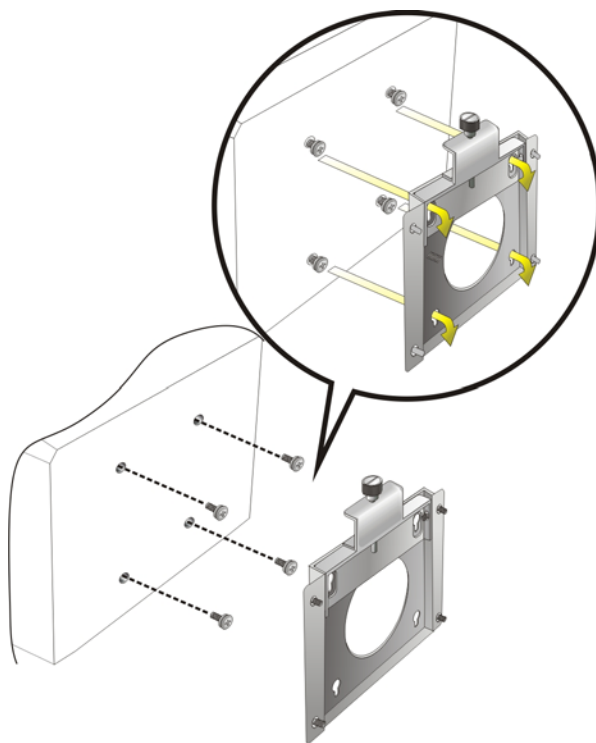

Figure 3-14: Chassis Support Screws
- Step 6:** Insert the four monitor mounting screws provided in the wall mounting kit into the four screw holes on the rear panel of the flat panel PC and tighten until the screw shank is secured against the rear panel (**Figure 3-14**).
- Step 8:** Carefully insert the screws through the holes and gently pull the monitor downwards until the monitor rests securely in the slotted holes (**Figure 3-14**). Ensure that all four of the mounting screws fit snugly into their respective slotted holes.